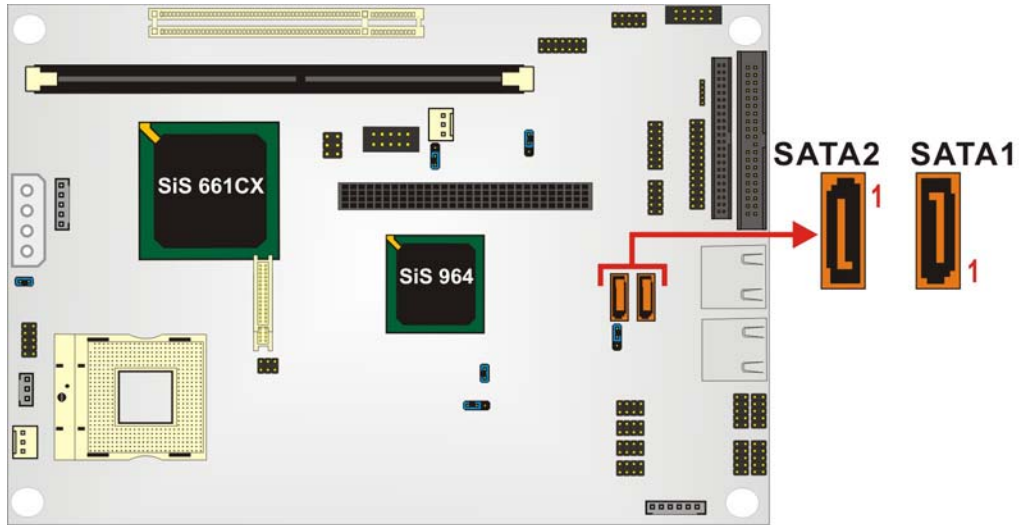

Figure 3-18: SATA Drive Connector Pinout Locations
- CN Location:** See Figure 3-18